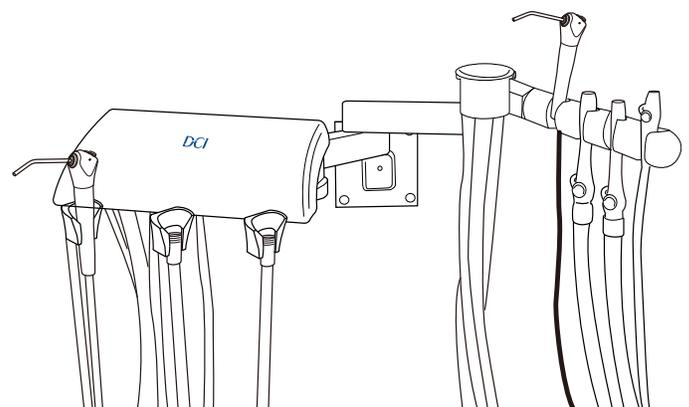

Figure 3
- 4. Install dental delivery system head and assistant package** (see Figure 3).